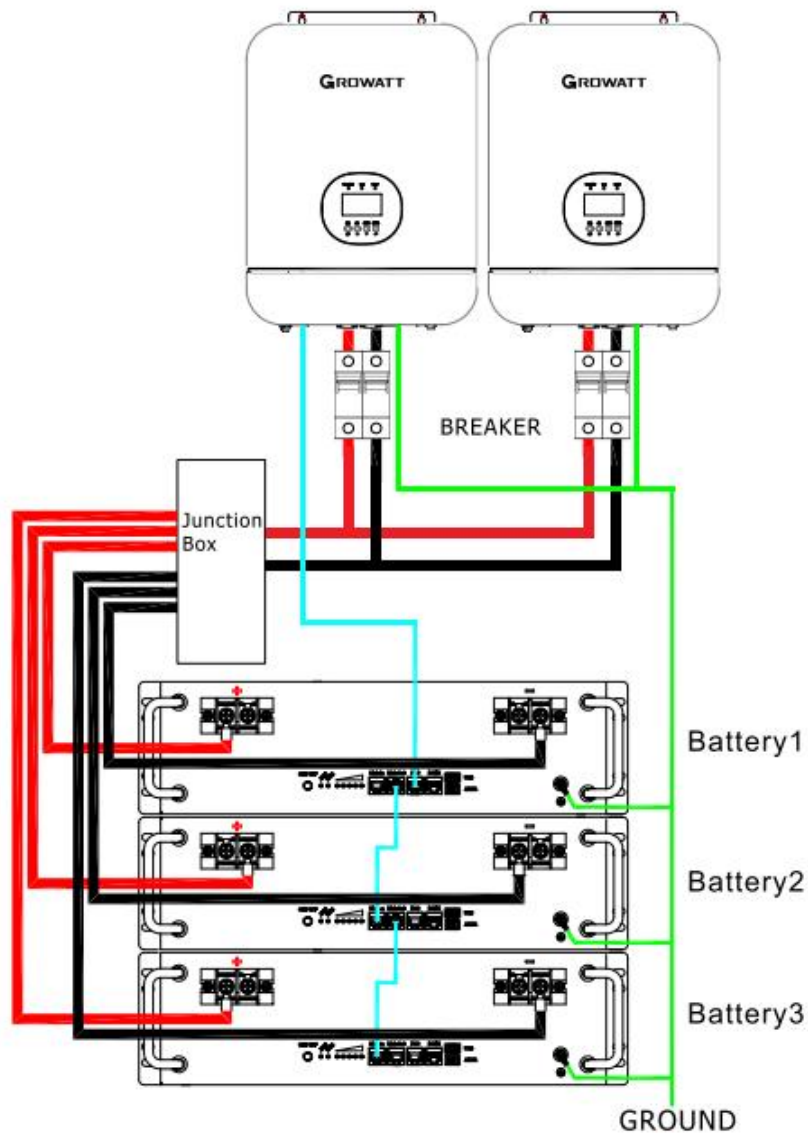

Figure 8: Installation diagram for power expansion
- 2) Refer to Figure 8 for power cable wiring